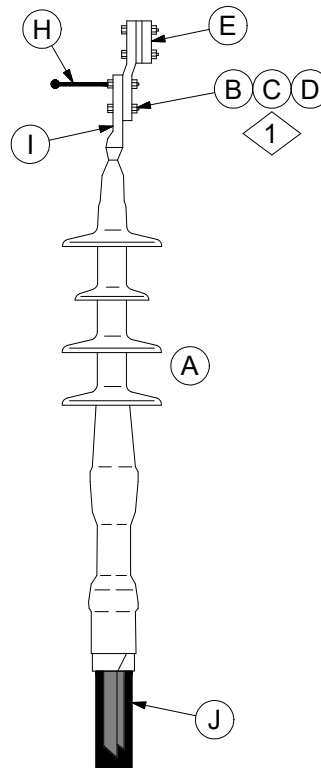

Figure 7A
- For outdoor installations, attach a bronze four bolt lug to the compression lug or shearhead bolt lug using a ground stud in the upper hole and a 1/2" x 2" bolt in the lower hole. See Figure 7A.